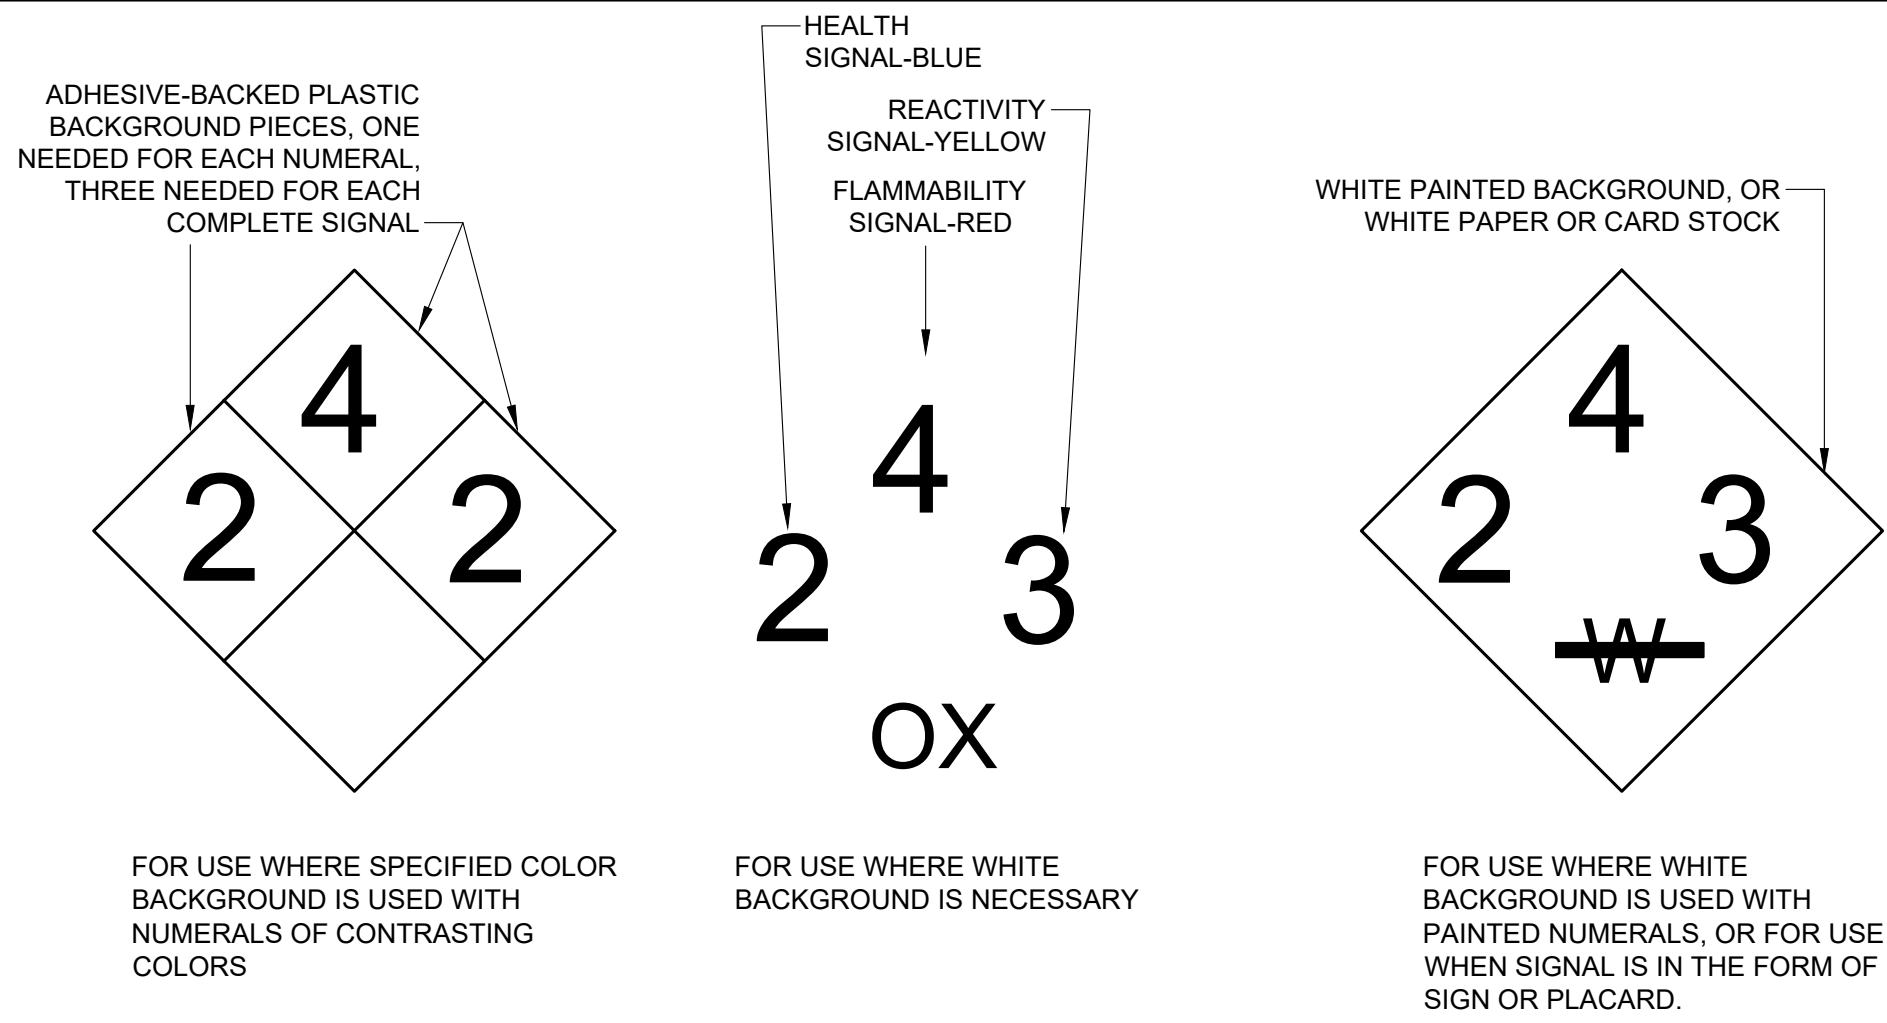
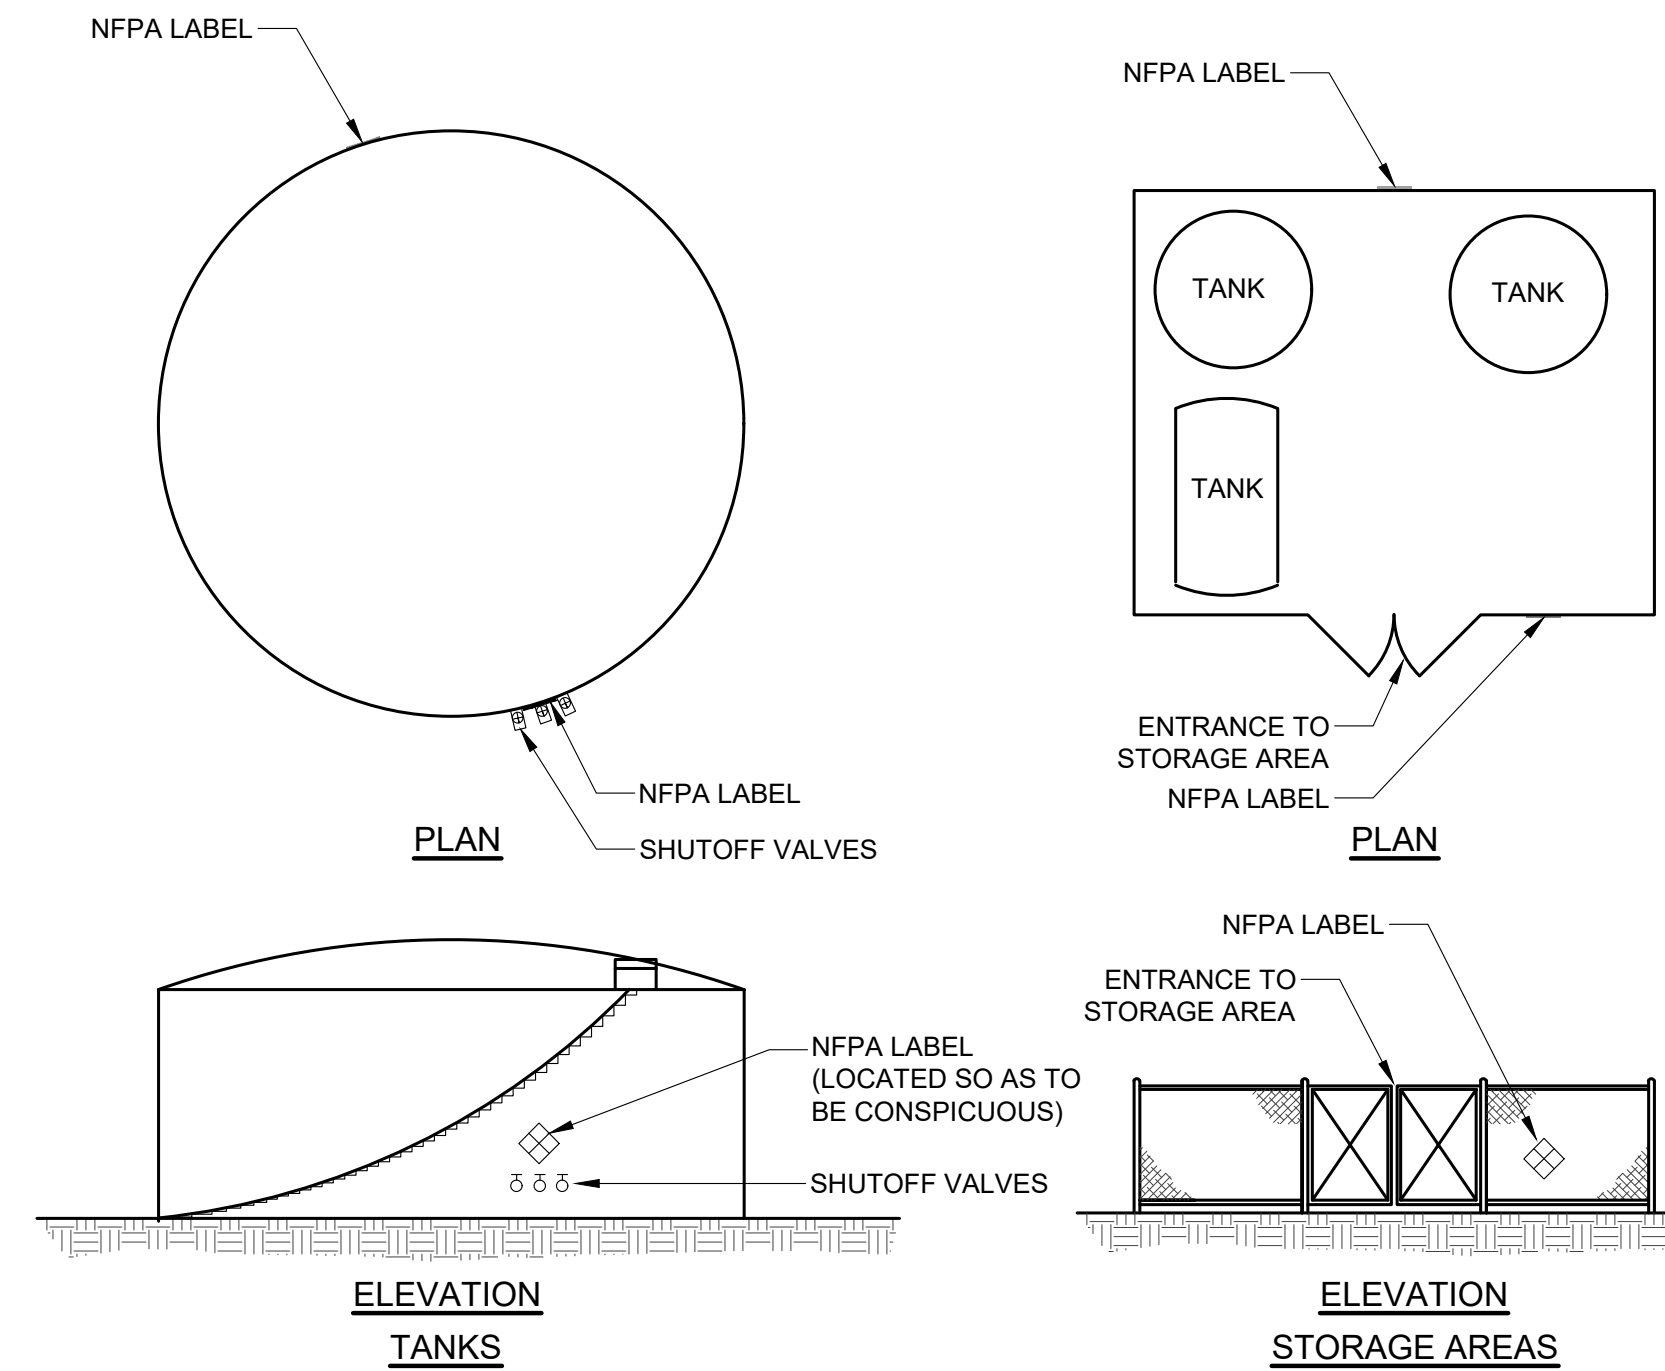

FIGURE 1: TYPICAL NFPA 704 HAZARD IDENTIFICATION SYSTEM
FIGURE 2: TYPICAL NFPA LABELING DETAIL
- TANKS: TANKS SHALL BE MARKED TO SHOW CONTENTS & CAPACITY USING HIGH BLACK LETTERING. MARKINGS SHALL BE PLACED FOR MAXIMUM VISIBILITY. IN ADDITION, TANKS SHALL BE MARKED FOR HEALTH, FLAMMABILITY AND REACTIVITY HAZARD PER THE NFPA 704 STANDARD SYSTEM (SEE FIGURE 1), AND HAVE COLORS PER TABLE. MARKINGS SHALL BE SIZED AND LOCATED SO AS TO BE CONSPICUOUS (SEE FIGURE 2) AND SHALL BE LABELED PER TABLE.